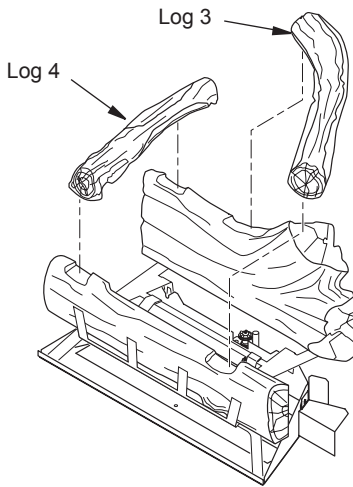

Figure 24 - Installing Logs 3 and 4
3. Place log 3 into notches on left side of logs 1 and 2 (see Figure 24, page 15).
4. Place log 4 into notches on right side of logs 1 and 2 (see Figure 24, page 15).